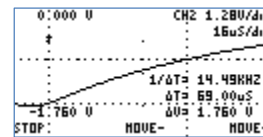

Figure 64: Half-life measurement
- 12) The display should look like figure 64. The measured time $T_{1/2} = 69\mu s$, is the "half-life" time, so $RC = 99.95\mu s$